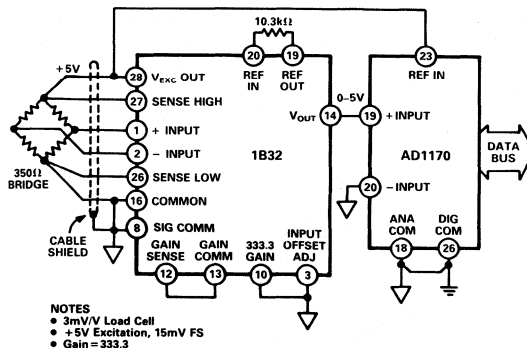

Figure 15. Auto-Calibrating Data Acquisition Using 1B32 and AD1170
**Pressure Transducer Data Acquisition System:** A two module solution for microcomputer based data acquisition using a 1B32 and an AD1170 18-bit A/D converter is shown in Figure 15. A 3mV/V pressure transducer (e.g. Dynisco 800 series) is interfaced to a 1B32 configured with a gain of 333.3, to provide a 0 to 5V output. The regulated excitation is +5V, and is used as the reference input for the AD1170 to produce ratiometric operation.